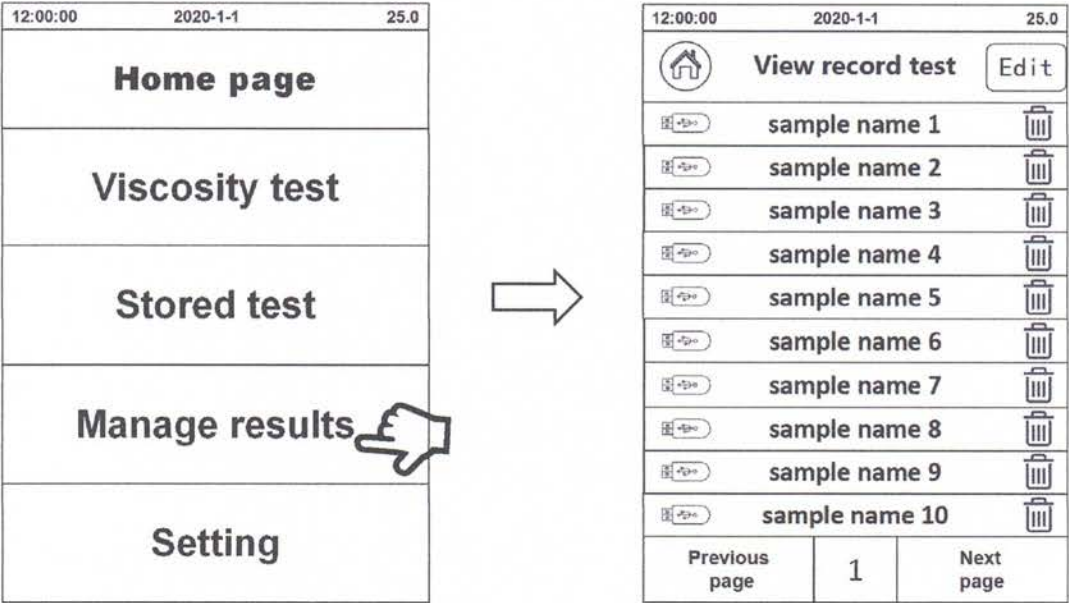

Fig. 25
6.3、Manage test records: After clicking “Manage results”, the stored test records will be displayed on the screen (Fig.25). Select the required records to view, delete, and export the record by USB disk.